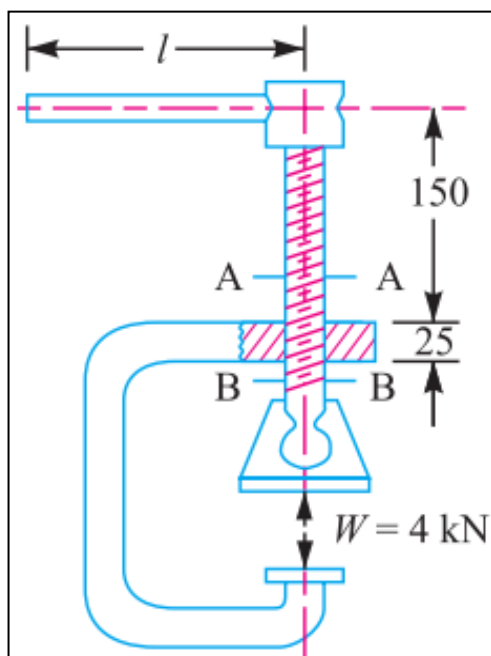

Fig. 2 (Que. 4 (a))
- Q.4 (a)** A C-clamp, as shown in Fig 2, has trapezoidal threads of 12 mm outside diameter and 2 mm pitch. The coefficient of friction for screw threads is 0.12 and for the collar is 0.25. The mean radius of the collar is 6 mm. If the force exerted by the operator at the end of the handle is 80 N, find: 1. The length of handle; 2. The maximum shear stress in the body of the screw and where does this exist; and 3. The bearing pressure on the threads. **08**